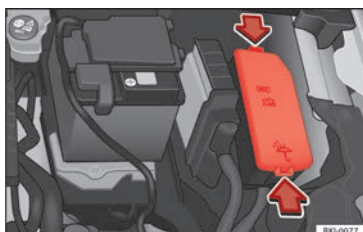

Fig. 70 In the engine compartment: fuse box cover.
- Press the locking tabs to release the fuse box cover » **Fig. 70**